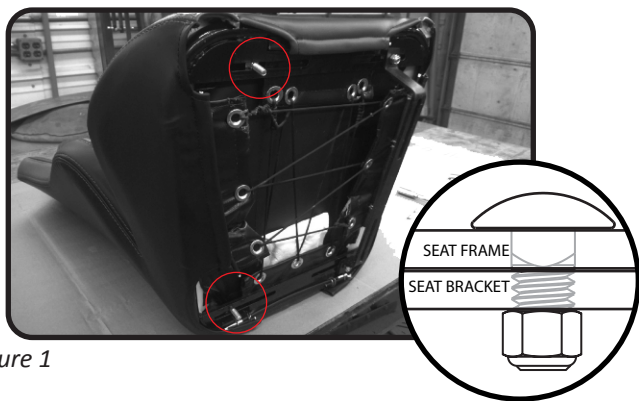
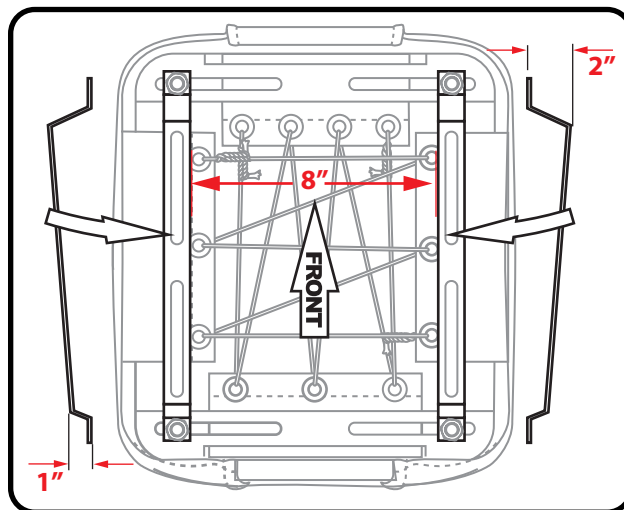

figure 1
figure 2
STEP 2 With your Force-1 seat on its back on a clean surface, insert a 1" carriage bolt through each of the slots in the seat frame, so that the round bolt head is on the lacing-side of the seat and the threaded end protrudes out (*figure 1*).
STEP 3 Place one angle bracket over each set of bolts, positioning the 2" rise (taller end) to the front of the seat as indicated (*figures 1 & 2*). The brackets should be centered on the seat frame, spaced 8" apart (*figure 2*).